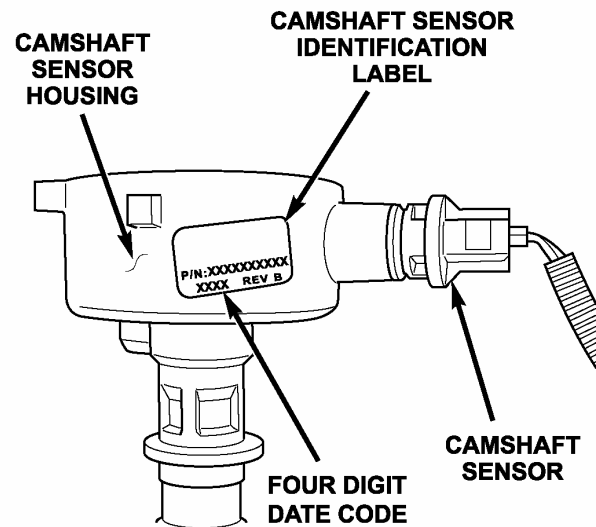

Figure 1
4. Using a small mirror, inspect the date code on the label located on the side of the housing (Figure 1).